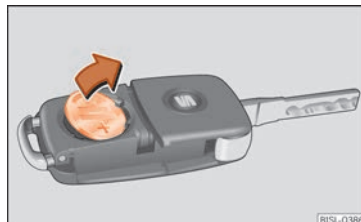

Fig. 66 Vehicle key: removing the battery.
- Remove the battery from the compartment with a suitable fine object »»» Fig. 66.
- Insert the new battery as shown »»» Fig. 66 and press it in the battery compartment in the opposite direction to the arrow »»» ❷.